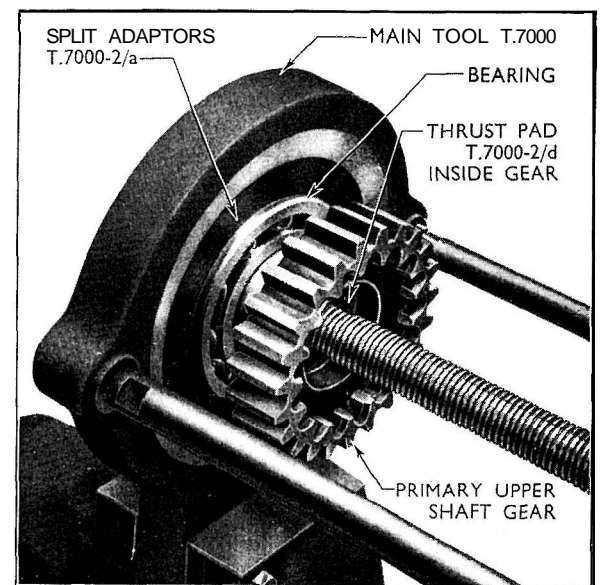

Fig. 37
10. Fit the split adaptors T.7000-2/a around the primary upper shaft bearing and install the assembly in Main Tool T.7000. Insert the thrust pad T.7000-2/d in the bore at the gear end of the primary upper shaft, position the gear in the bearing bore and press in until fully located (see Fig. 37).